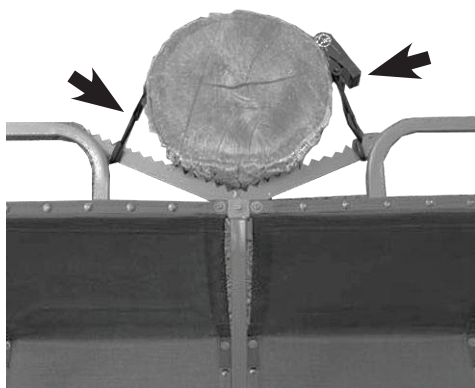
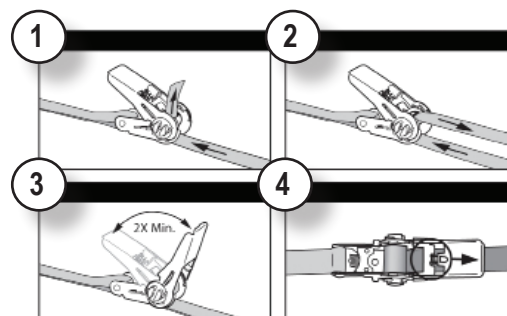

Figure 35
Figure 36
STEP 11: After reaching the top of the ladder immediately attach yourself to the tree with your full-body fall arrest tether to the tree trunk as shown in Figure 34. Now you can place the ratchet strap around the tree hooking one end to the left side of the tree blade and the other end to the right side of the tree blade and ratchet tight as shown in Figure 35. Ratchet threading instructions may be found in Figure 36. NOTE: Do not put any of your weight on the seat until the seat assembly ratchet strap has been secured.
STEP 1: With the help of two (2) other adults (refer to Figure 35) at the base of the ladder stand holding it steady, climb to a height which allows you to safely attach your full-body fall arrest harness tether to the tree trunk as soon as possible. After your tether has been attached to the tree trunk, disconnect the ratchet strap which secures the tree blade.
STEP 2: Disconnect your tether and climb back down to the ground. Remove the stabilizer straps and disconnect the tree brace assembly. With the help of two (2) other adults, gently lower the treestand to the ground.